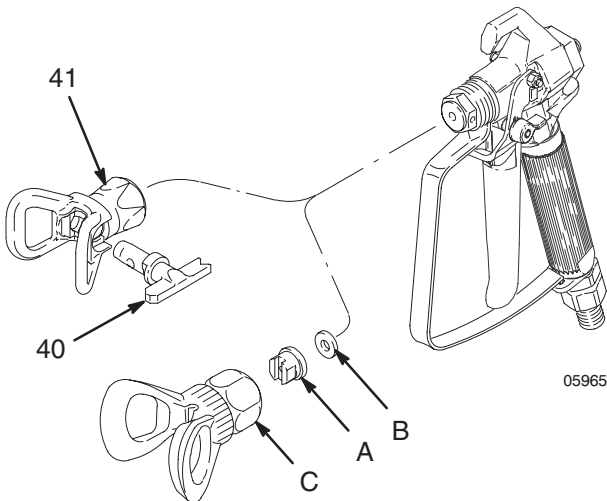

Fig. 2
1. Connect a grounded fluid hose to the gun inlet. See Fig. 2
Install the tip (A) and the gasket (B) in the nut of the tip guard (C). Screw the assembly firmly onto the gun. Tighten the assembly with a wrench. See Fig. 2.
Install the RAC IV SwitchTip (40) and the tip guard (41). See manual 308644, supplied. See Fig. 2.
2. Remove the tip guard assembly. See Fig. 2.
3. Squeeze the trigger while unscrewing the diffuser/seat (A) and gasket (B).
4. Remove the locknut (D) and end cap (23).